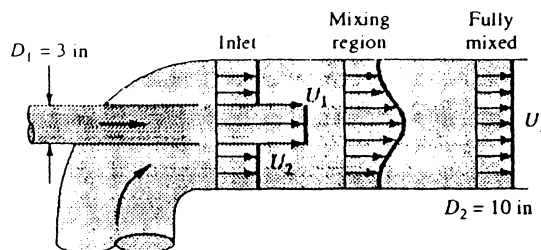

Fig. P3.36
3.89 Consider Fig. P3.36 as a general problem for analysis of a mixing ejector pump. If all conditions (p , ρ , V) are known at sections 1 and 2 and if the wall friction is negligible, derive formulas for estimating (a) V_3 and (b) p_3 .